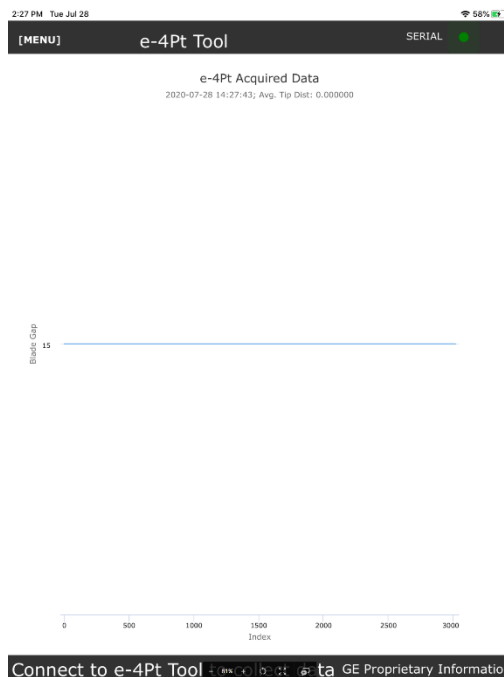

Figure 21 Post Dark Reference data collection
2. A failed dark reference is anything other than what is shown in Figure 21 Post Dark Reference data collection